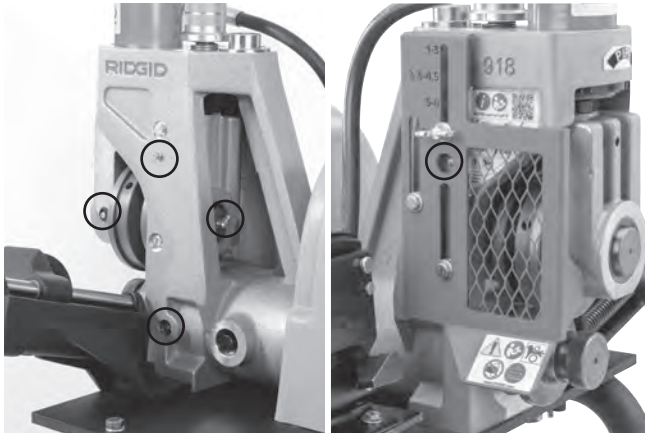

Figure 19 – Grease Fittings
- Lubricate the groover at grease fittings (See Figure 19). Add grease until a small amount pushes out.